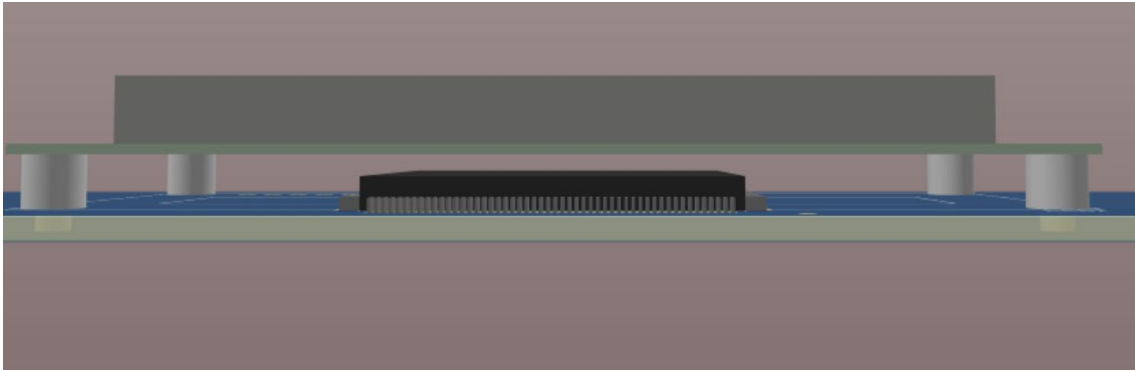

Figure 2 : Sufficient vertical clearance
14. Since there is enough vertical clearance, this does not generate any DRC violations, as shown back in 3D mode in Figure 2 (switching to 3D mode not required yet).